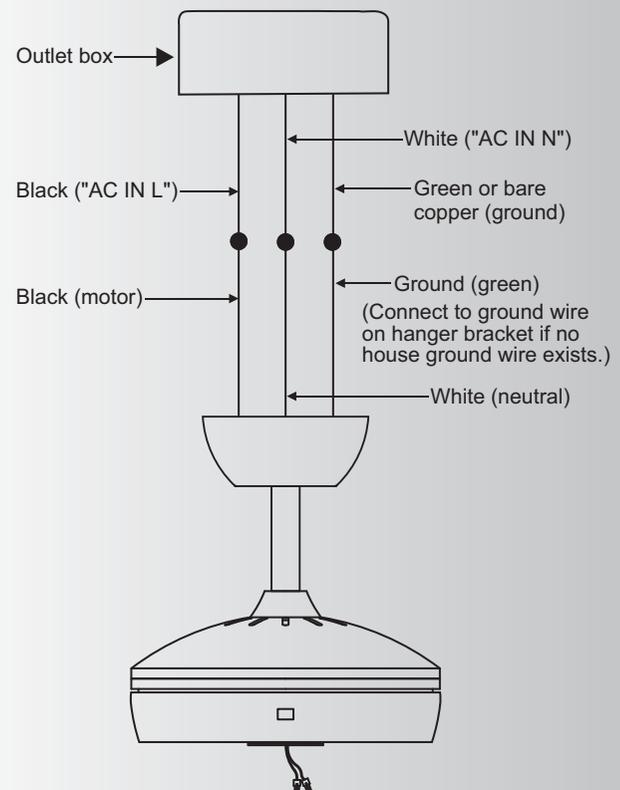

Fig. 13
**Step 1.** Connect the fan supply (black) wire to the black household supply wire as shown in Figure 13.